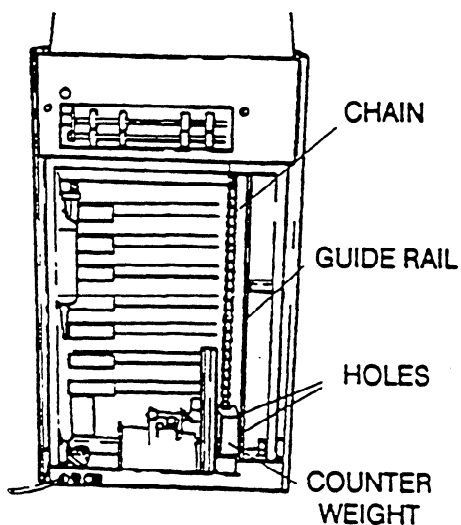
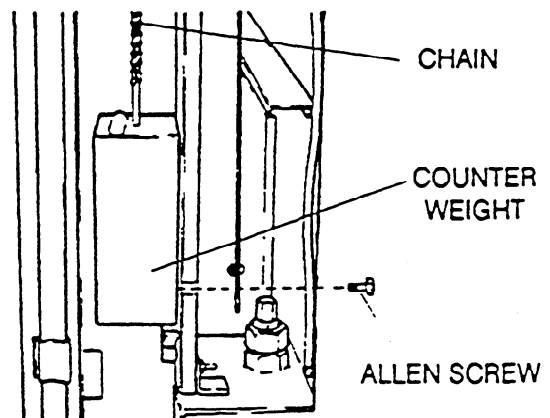

figure 4
figure 5
8. Remove the REAR COVER from the MULTILOADER 700 (see fig. 4)
11. Remove the ALLEN SCREW that holds the COUNTERWEIGHT to the GUIDE RAIL.(see fig. 4) Slide the COUNTERWEIGHT to that portion, where the screwhole in the COUNTERWEIGHT is visible through the LOWER part of the GUIDE RAIL (see fig. 4). Through the hole in the GUIDE RAIL install the ALLEN SCREW in the COUNTERWEIGHT.(see fig. 5)